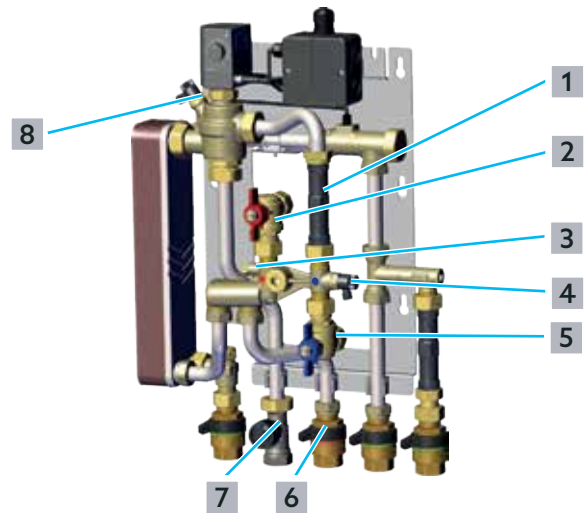

Fig. 10: Mounting the heat meter
- 1 Close the angle ball valves in the primary supply ((2) in Fig. 10 on page 18) and primary return (5) as well as the ceramic disc valve in the heating circuit supply (6) and the zone valve in the heating circuit return (7).
Connect a hose line to the drain valve ((4) in Fig. 10 on page 18) in the primary circuit to make it easier to direct escaping water into a container.
- 3 Slowly open the vent valve ((8) in Fig. 10 on page 18) and the drain valve (4).
- 4 When the primary circuit above the drain valve is empty, close the drain valve (4) and the vent valve (8) again.
- 5 Remove the spacer (1) from the pipe.